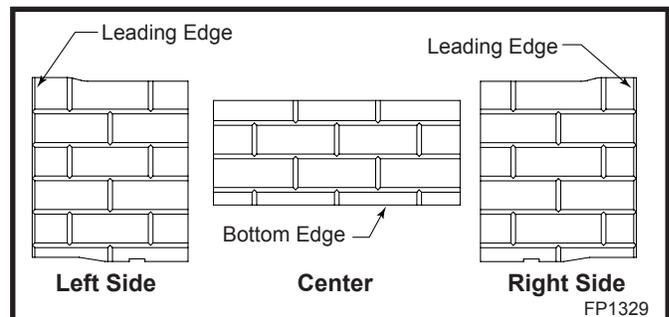

Fig. 15 Ceramic refractory.
4. Take center refractory and tilt so bottom edge seats onto the rear log bracket at the back wall of the fireplace. (Fig. 15)